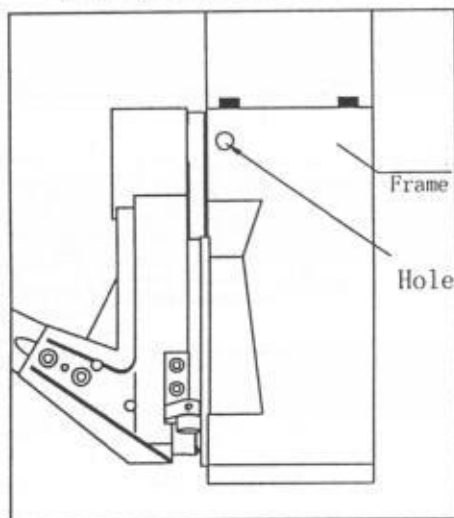

Fig. 13
(3) Adjustment of the sewing needle and shuttle
(A) Loosen the two set screws of the synchronous belt wheel in the right hole of the frame (Fig.13).